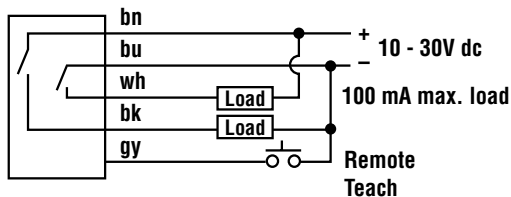

Figure 6. Installing plastic optical fiber into the FI22FP fiber ports
1. Use a small Phillips screwdriver to loosen set screw, as shown in Figure 6.